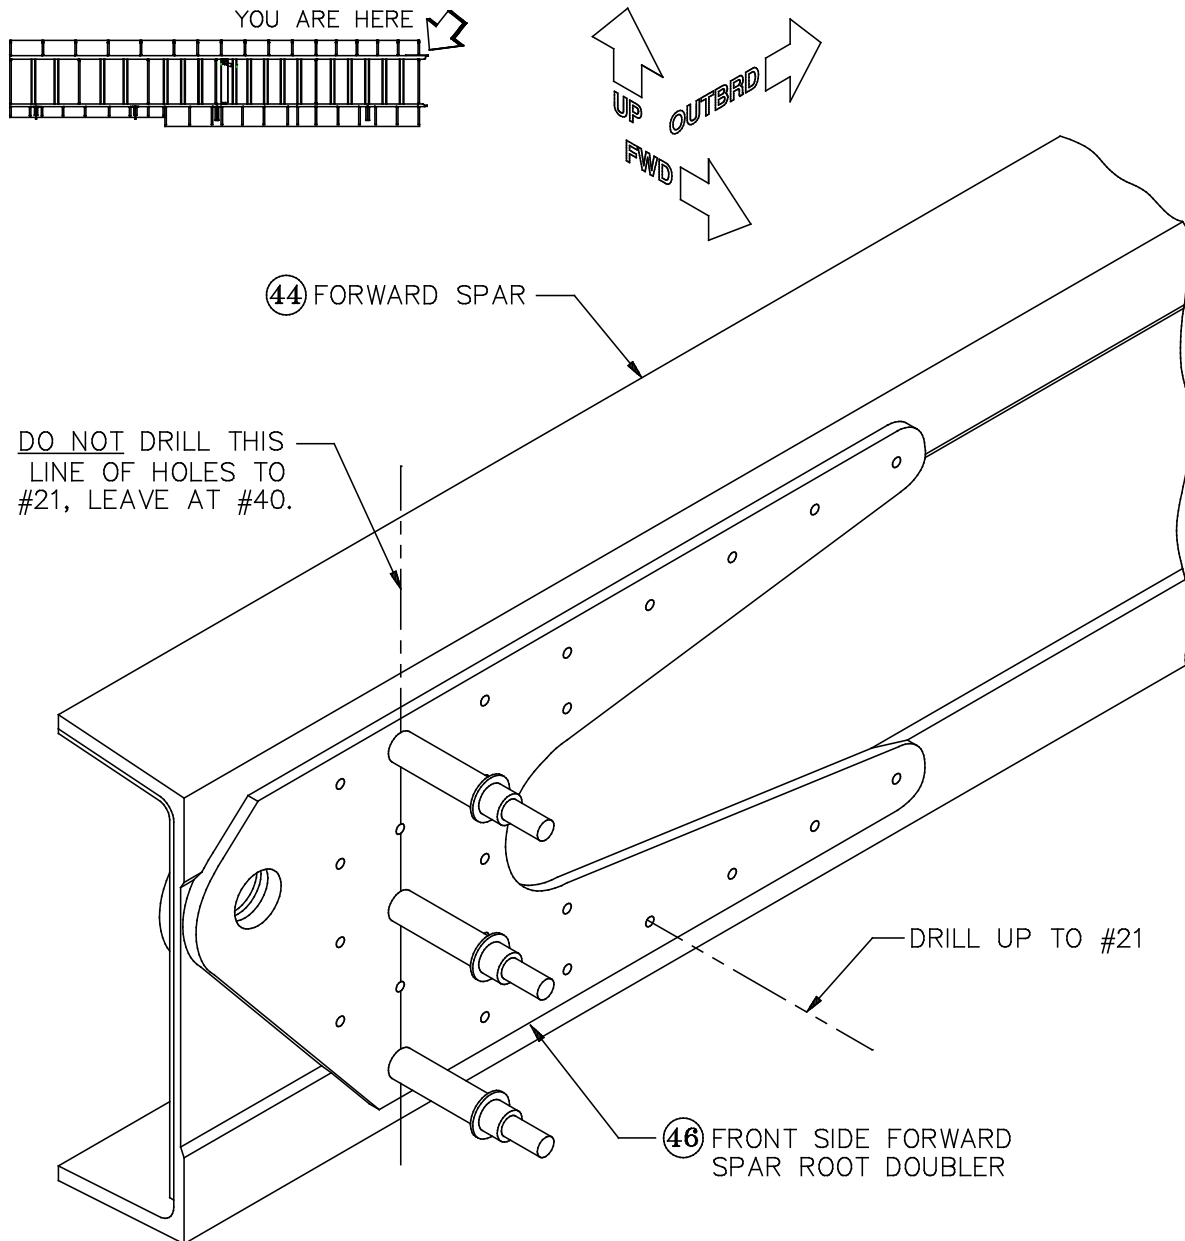

Figure 11: Drilling the Forward Spar Root Doublers
D) Except for the five holes where the root ribs attach (the second vertical line of holes from the wing-attach hole), drill all the holes in the assembly up to **#21** diameter for 5/32" rivets, as shown in Figure 11. Cleco as you go. The five holes in the rib line will be enlarged to #30 diameter later during rib fit-up.